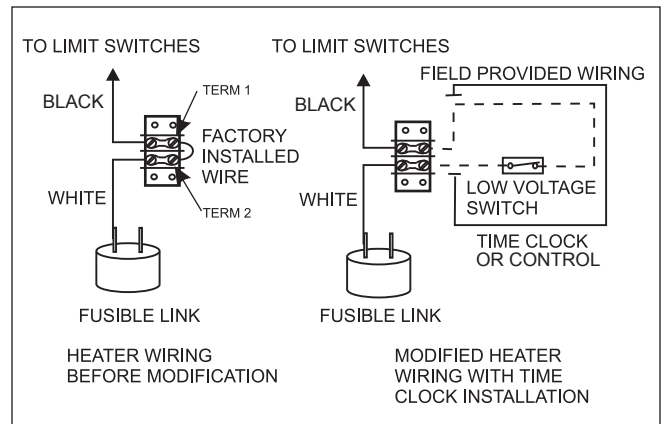

Figure 15. Time Clock Wiring or Control Connection
To install a time clock auxiliary switch into the heater wires (see Figure 15):
2. Remove the factory installed wire between terminals 1 and 2 on the terminal strip (see Figure 15).